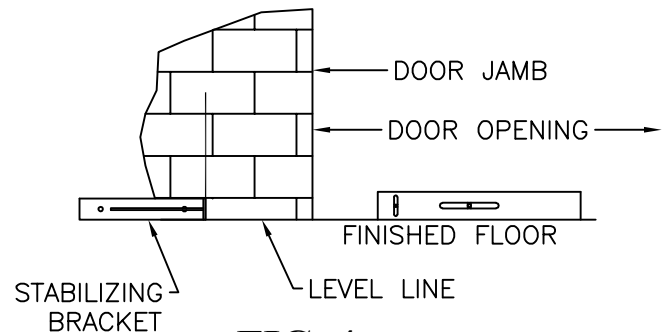

FIG. 4
- ❖ Place Bracket on its side, flush to wall along top of level line, extending away from door opening (Figure 4)